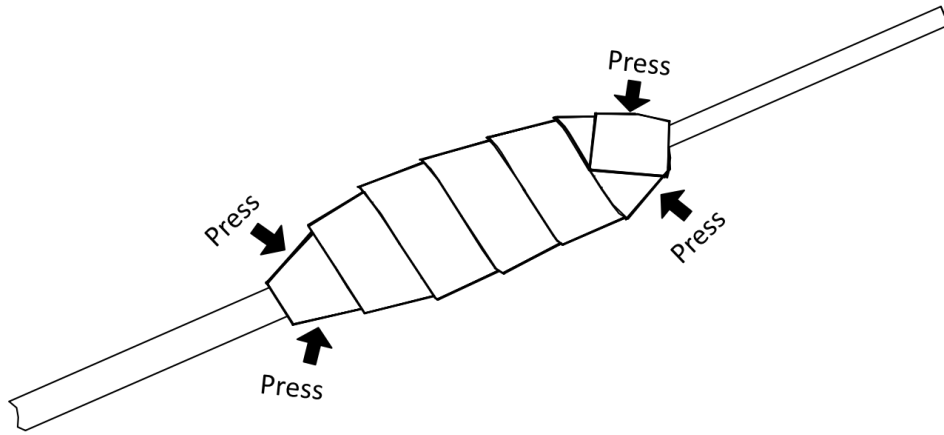

Figure 3-3 Compaction Waterproof Tape
Step 4 As shown in Figure 3-3, press the waterproof tape on both sides of the terminal to achieve insulation and sealing.